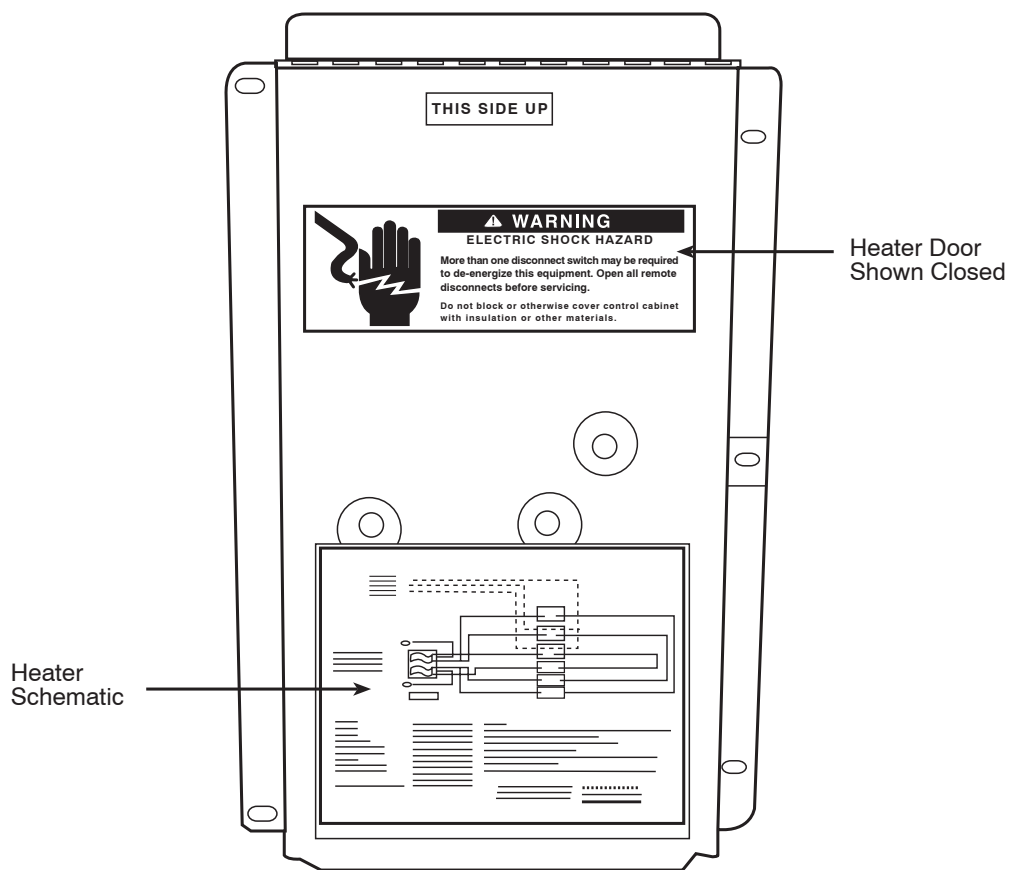

Fig. 5 - Schematic Location
6. Schematic on sticker to be placed inside unit panel for non-fused units (See Fig. 5)